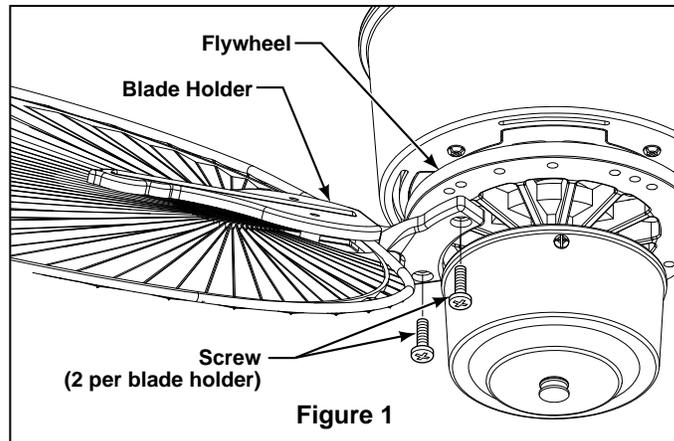

Figure 1
3. Make sure the screws securing the blade holders to the flywheel are tight and that the blade holders are properly seated on the flywheel (Figure 1).